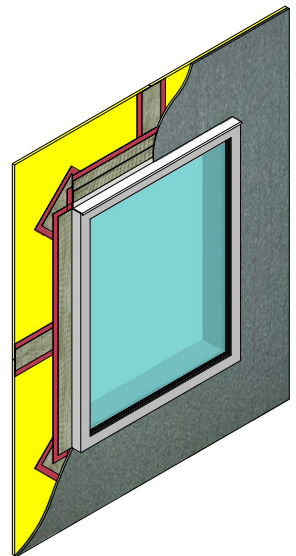

Figure 30
9. Apply Finestop RA/RS/VB per the product bulletin instructions over the substrate. (See Figure 30)